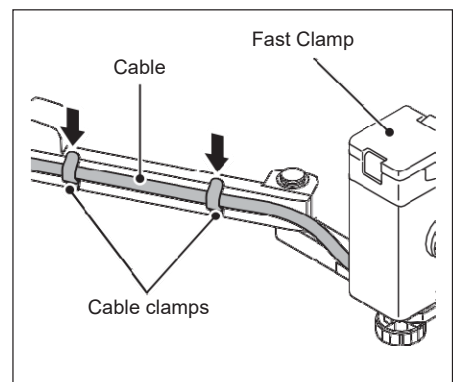

Figure 1-22
- Hang the cable of the Fast Clamp along the cable clamps. (Figure 1-22)